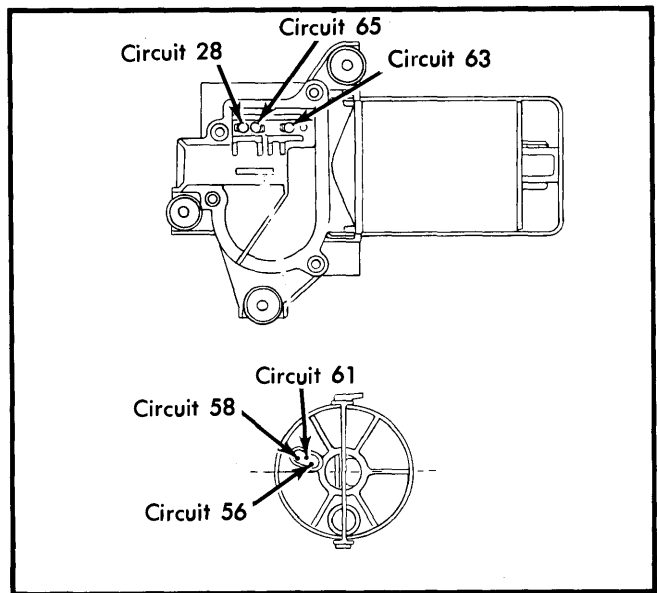

Fig. 2 Circuit Connections for Motor Park Test
2) Remove connector and check for battery voltage at circuit 65. See Fig. 2. If voltage is not present, service circuit as required. If voltage is present, check ground. If ground is poor, check switch cover screw, and motor ground strap for tightness.